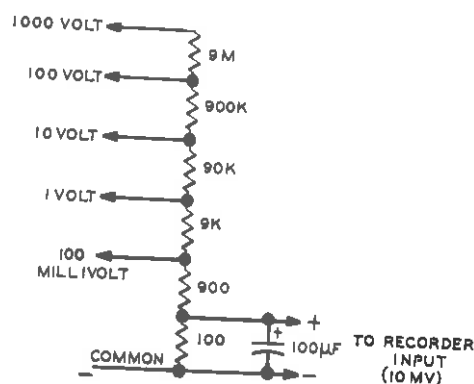

Figure 18
Figure 18 shows a multi-range voltage divider circuit that will scale dc voltages to the 10-millivolt Recorder input. This circuit presents only a 10 k ohm-per-volt load to the source. Build the circuit on a range switch in a box for a permanent accessory.
1. Construct the circuit shown in Figure 18.